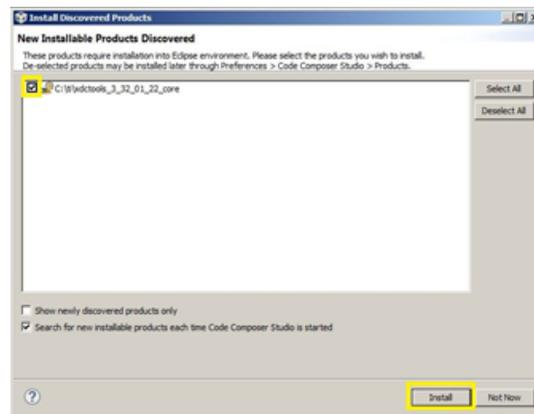

Figure 35. CCS Discovered Products
- Choose Add, then add the paths and choose Rediscover. After the rediscover, an Install Discovered Products window may appear. If the window appears, the new products have been discovered. If the products mentioned are in the list, select them and click Install (see Figure 35).